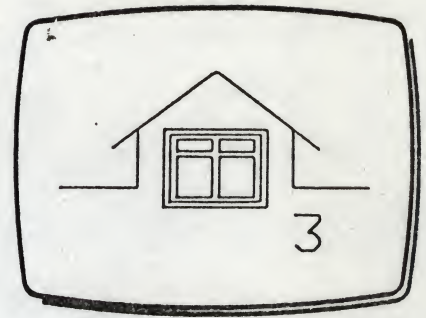

Fig 4
- 14 Press and release T to draw the window frame as (3) in Fig 4.